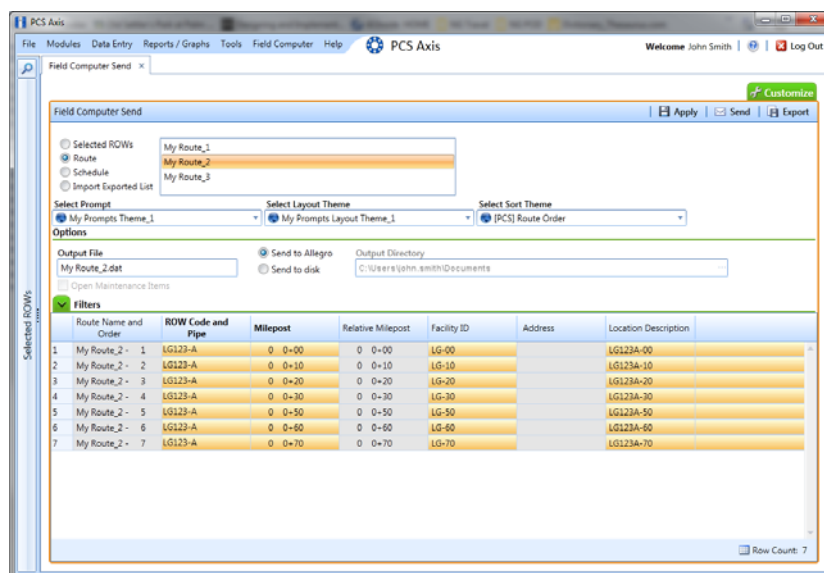

Figure 12-5. Field Computer Send
- 4 Click the **Route** option and then select a route in the selection box. The following figure shows *My Route_2* has been selected (Figure 12-5).
- 6 Select a prompt, layout, and sorting theme as follows (Figure 12-5, page 478):
- a Click the  **Filters** tab to open the *Filters* panel (Figure 12-5, page 478).